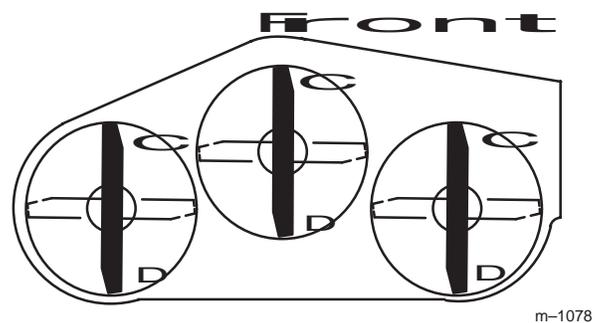
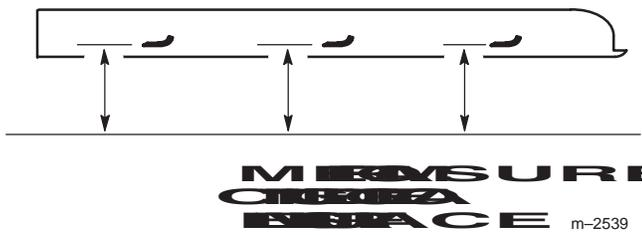

Figure 56
Figure 57
2. Position one blade front-to-rear (Fig. 56). Measure at "C" and "D" locations (Fig. 56) from a level surface to the cutting edge of the blade tips (Fig. 57).
4. Position the blades front-to-rear (Fig. 56). Measure at “C” and “D” locations (Fig. 56) from a level surface to the cutting edge of the blades (Fig. 57).